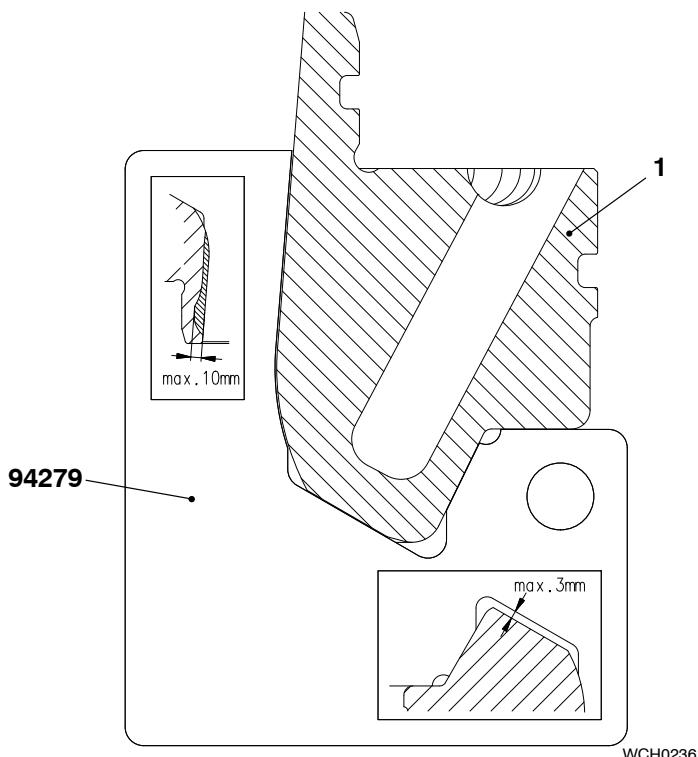

Fig. 4
- 2) Put the valve seat (1) in the correct position on the tool 94291.
- 3) Put the Template 94279 on the valve seat (see Fig 4).